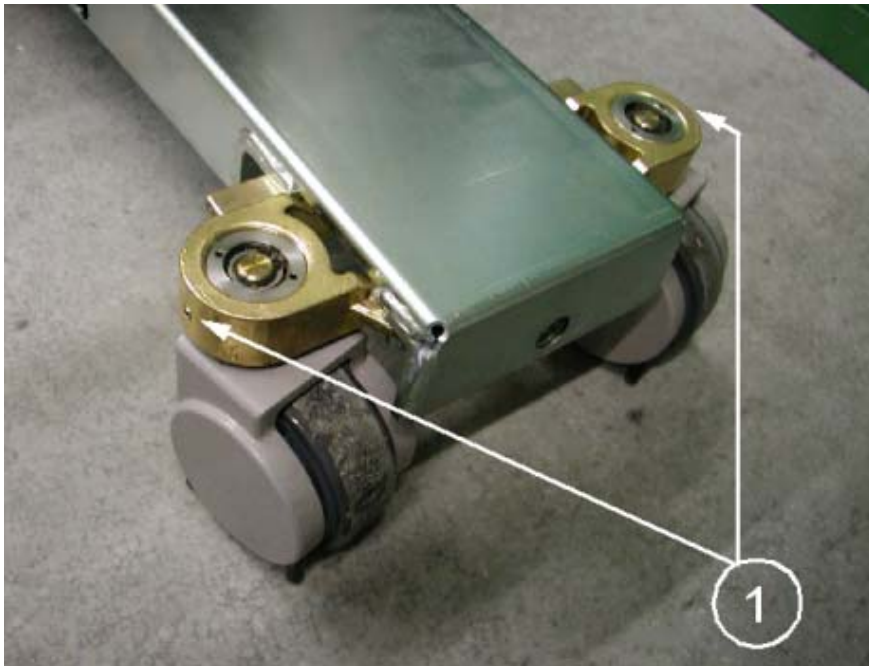

Fig. 1
- Remove the front wheel cover (already done in Fig. 1).
- Check the 2 ISK screw (1/Fig.1) for tightness.